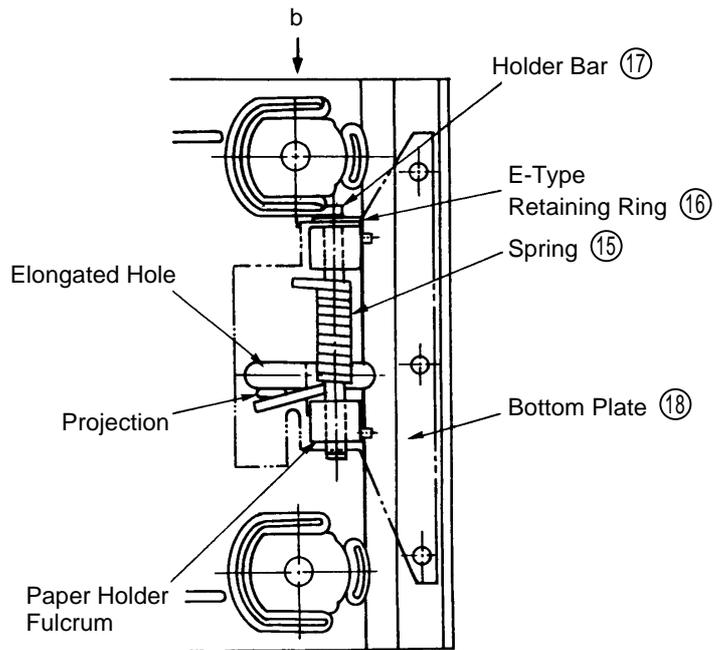

Fig. 8
- (1) Reassembly of the Paper Holder Section:
- A. First mount the D3 E-Type Retaining Rings (16) on the Holder Bars (17).
- B. Place the Spring (15) onto the Bottom Plate (18) so that the projecting coil of the Spring fits into the elongated hole, as illustrated in Fig. 8.
- C. Then, mount the Paper Holder (14) onto the paper holder fulcrums, and pass the Holder Bar (17) through the paper holder fulcrums, Paper Holder (14), and Spring (15) so that the D3 E-Type Retaining Ring (16) is positioned on the side marked "b" in Fig. 8.